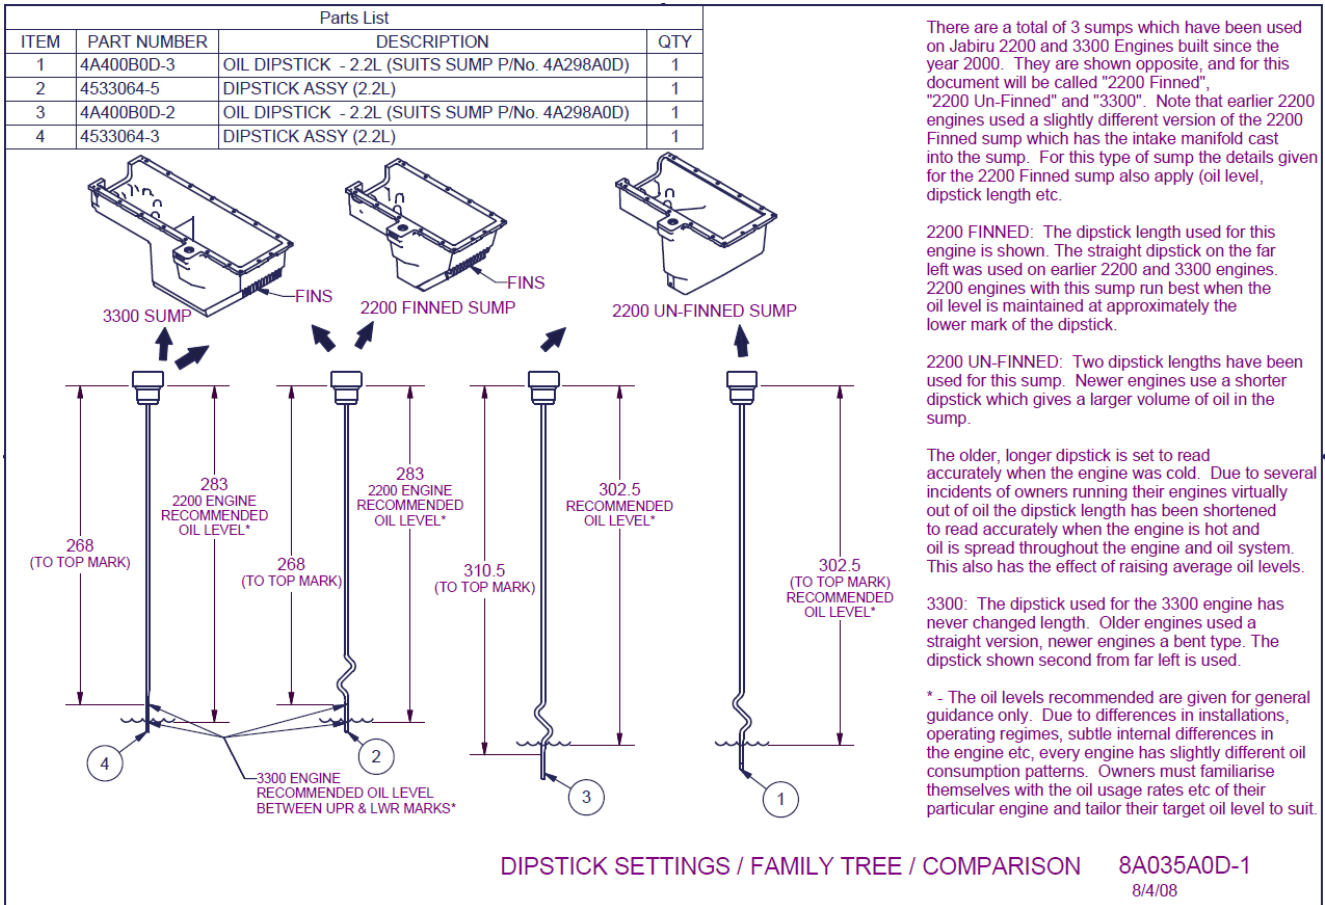

Figure 10. Dipstick Family Tree
- Over the course of it's development the 2200 engine has used several different sumps and dipstick lengths. Figure 10 gives an explanation of these lengths and what oil levels should be maintained.